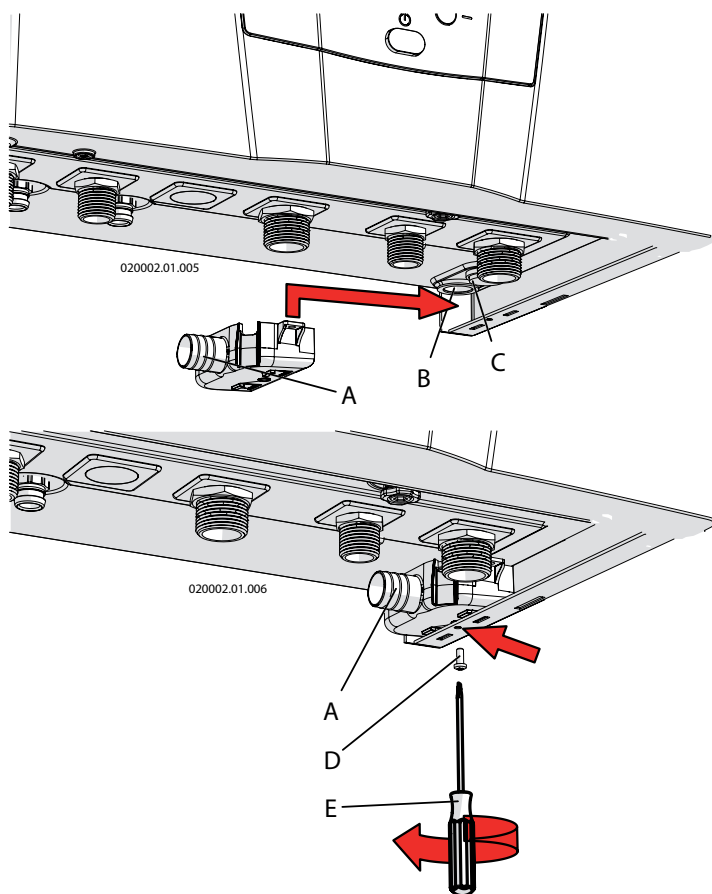
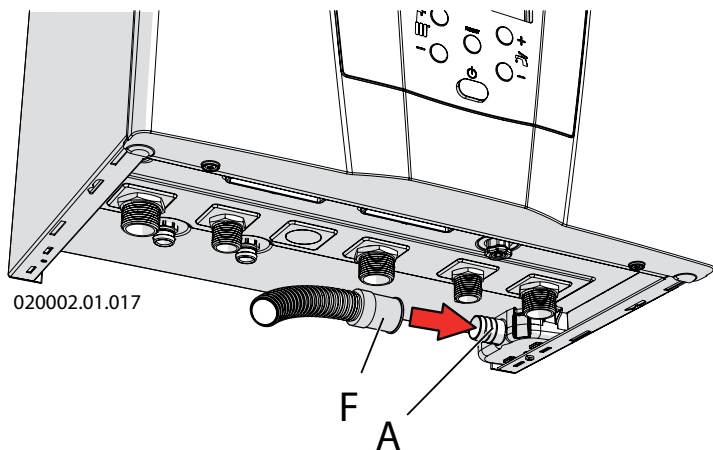
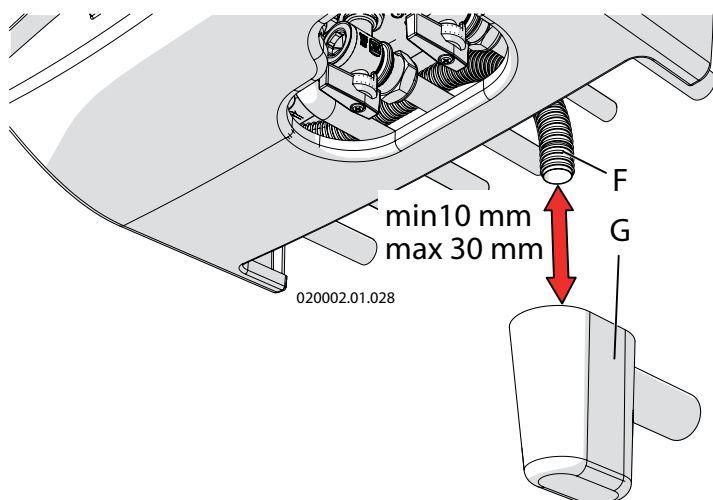

Figure 5.4 - Safety valve drain and condensate drain connection
Figure 5.5 - Condensate drain pipe
Figure 5.7 - Siphon funnel (on request)
There is a siphon inside the boiler for the evacuation of condensate (see figure 3.1 detail "49") and to prevent combustion products from escaping, whose end corresponds to the pipe "B" in figure 5.4. This termination must be conveyed into an anti-odour siphon (figure 5.7 detail "G") to prevent bad odours returning into the environment (the anti-odour siphon "G" is supplied on request).
Open the tank "A" as indicated in figure 5.4 and fix it using the screw "D", connect the drain pipe "F" as indicated in figure 5.5.
- ☞ for room used for residential purposes and for office with more than 10 users, it can be connected to the domestic waste disposal plant by means of appropriate siphon with disjunction capable of preventing the pressurisation of the system (siphon prepared within boiler) and to prevent the return of bad odours from the sewer (detail "G" in figure 5.7). If the room used for office purposes has less than 10 users, before connection with the domestic waste drain, a condensate neutraliser is good practice (see chapter 9 for the value of acidity of the condensate and the quantities).
The appliance is protected against overpressures by a safety valve calibrated to 3 bar (see figure 3.1 detail "7"). The safety valve drain (detail "C" in figure 5.4), along with the condensate drain (detail "B" in figure 5.4) must be conveyed to a pipe "F" (see figure 5.5) with minimum internal diameter of 13 mm; the pipe "F" must be then taken to the anti-odour siphon (detail "G" figure 5.7). This drain with siphon is used to prevent overpressures if the valve is opened and makes it possible for the user to check the eventual intervention.
The pipe "F" in figure 5.5 is supplied as per standard along with tank "A" in figure 5.4. The anti-odour siphon "G" in figure 5.7 is provided on request.